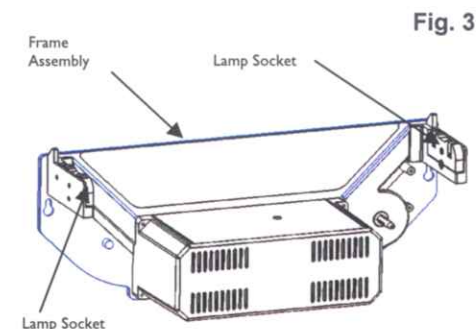

Fig. 3
3. Insert new lamps and twist lamp 90° (see page 5, fig. 3). Lamps should be replaced in pairs, to maintain optimum attraction of insects.
1. Remove the ultraviolet lamps from the box. Insert the lamps into the lamp sockets by aligning the pins of the lamp with the light socket and twist 90 degrees. (fig. 3)